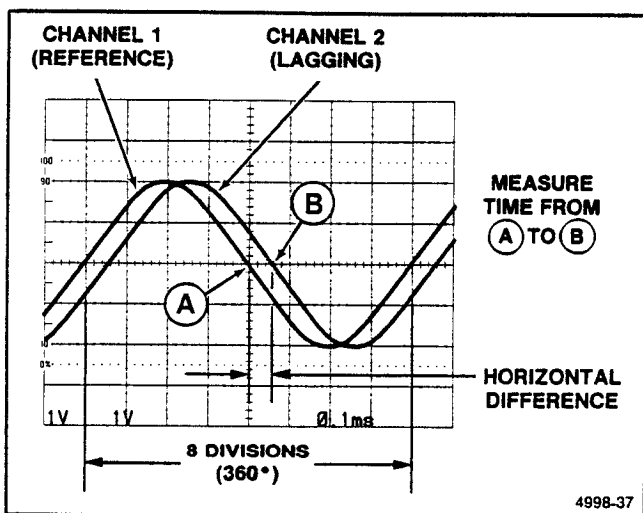
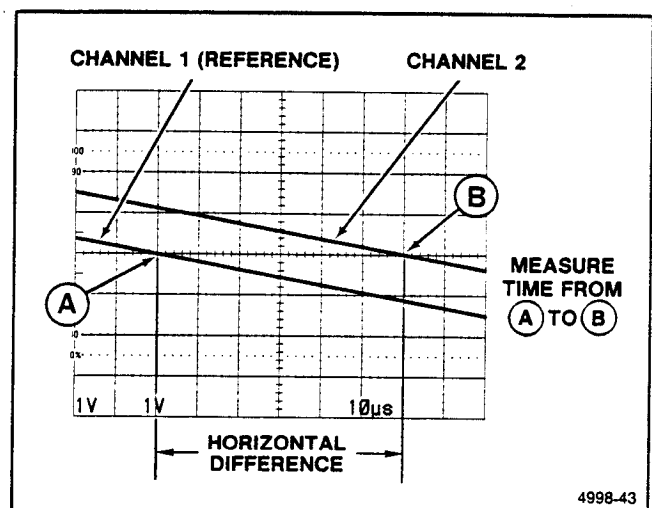

Figure 6-9. Phase difference.
Figure 6-10. High-resolution phase difference.
9. Position the displays and adjust the SEC/DIV Variable control so that one reference-signal cycle occupies exactly eight horizontal graticule divisions at the 50% rise-time points (see Figure 6-9). Each division of the graticule now represents 45° of the cycle ($360^\circ \div 8$ divisions), and the horizontal graticule calibration can be stated as 45° per division.
EXAMPLE: The horizontal difference is 0.6 division with a graticule calibration of 45° per division as shown in Figure 6-9.
EXAMPLE: If the sweep speed were increased 10 times with the magnifier (X10 Magnifier out), the magnified horizontal graticule calibration would be 45°/division divided by 10 (or 4.5°/division). Figure 6-10 shows the same signals illustrated in Figure 6-9, but magnifying the displays results in a horizontal difference of 6 divisions between the two signals.